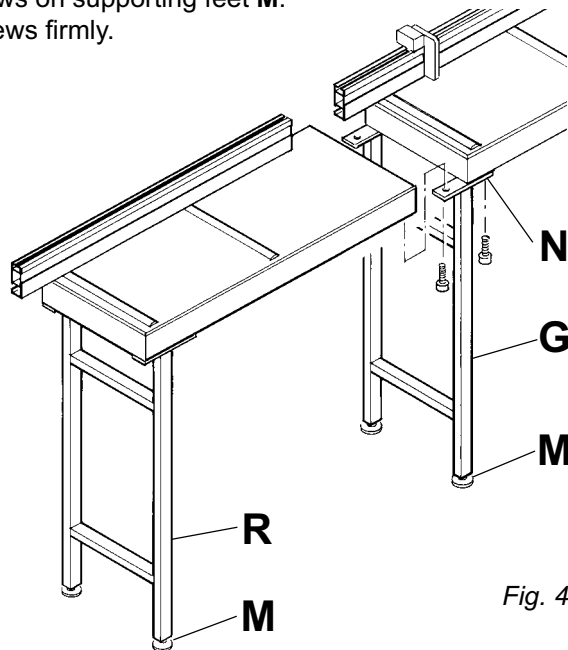

Fig. 4-3 Fitting benches
- Fix foot **G** and cause the connecting plate **N** to project by one hole with respect to the standard roller bench fig. 4-3.